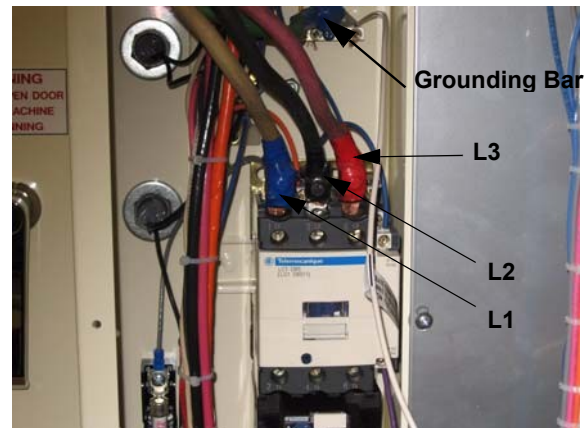

Figure 7: Electrical Connections
1. Check for a high leg. The high leg must be connected to L-3 only. Failure to do this may result in electrical damage to the 110V circuit that originates from L-1. See Fig. 7.
2. Connect the ground wire from the service to the grounding bar. See Fig. 7.
3. Connect a neutral from the service to the pig tail labeled “neutral.” See Fig. 7 or 8.
4. Check the direction of rotation of the contact roller from the front belt viewer. The contact roller should rotate in a counter-clockwise rotation when looking at it from this position. If the contact roller is rotating clockwise, the electrical service coming into L-1 and L-2 needs to be reversed. See Fig. 7 and 8.